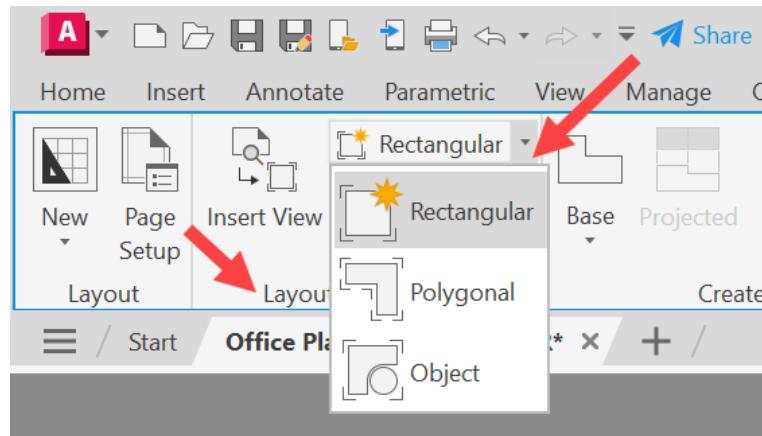

Figure 8.10: The contextual Layout Viewports panel with the viewport type drop-down menu displayed
9. On the **Layout Viewports** panel, select a **Rectangular** viewport type in the top-right dropdown. It is the default type, so it may already be displayed. You can also type **VIEWPORT** and press *Enter*. The **Viewports** dialog box will appear. Selecting the **New Viewports** tab in the dialog box will give you options for various viewport layouts, including single, two vertical, horizontal, and so on. *Figure 8.10* shows the **Layout Viewports** panel and how to select the **Rectangular** viewport type using the ribbon.